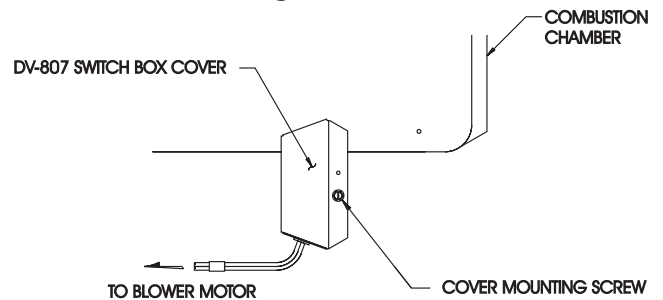

Figure 4
9. Attach switch box cover to the switch box by using the #8 x 1/4" (6mm) hex-head screw. (See Figure 4)